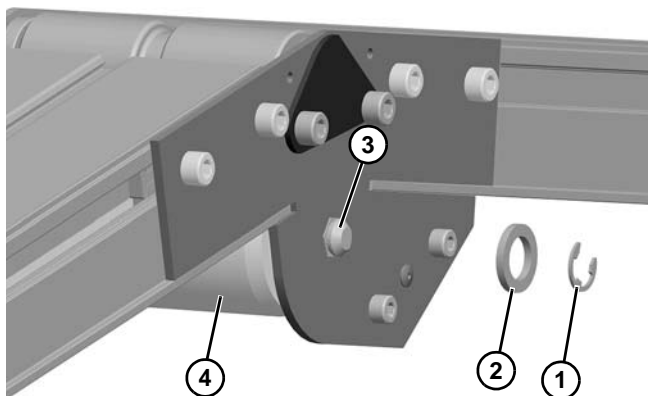

Figure 134
- a. For 2" (44 mm) through 4" (95 mm) wide conveyors, remove E-ring clip (Figure 134, item 1) and washer (Figure 134, item 2) from one side. Remove pulley shaft (Figure 134, item 3) and pulley (Figure 134, item 4).